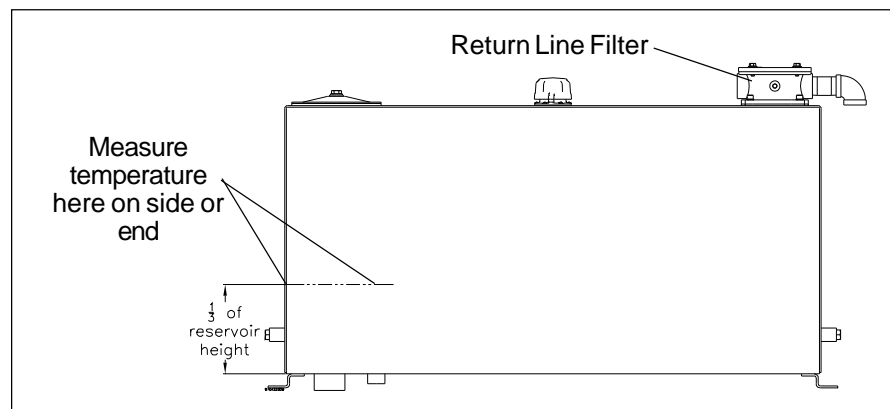

Figure 6 - Reservoir Temperature Measurement Location Using IR Thermometer
2. Operate the unit to warm the hydraulic oil to 120 to 130 degrees Fahrenheit. This temperature range is important. **If the oil is not warmed to this temperature range, the CADI settings resulting from the calibration procedures will not be accurate, and poor meterability will result.** One way to verify the oil temperature is to use an infrared (IR) thermometer to read the temperature of the hydraulic reservoir on or near the end opposite from the return line filter, at a point about $\frac{1}{3}$ of the way above the bottom of the reservoir (refer to Figure 6). The oil can be warmed quickly as described in Step 2a or 2b.